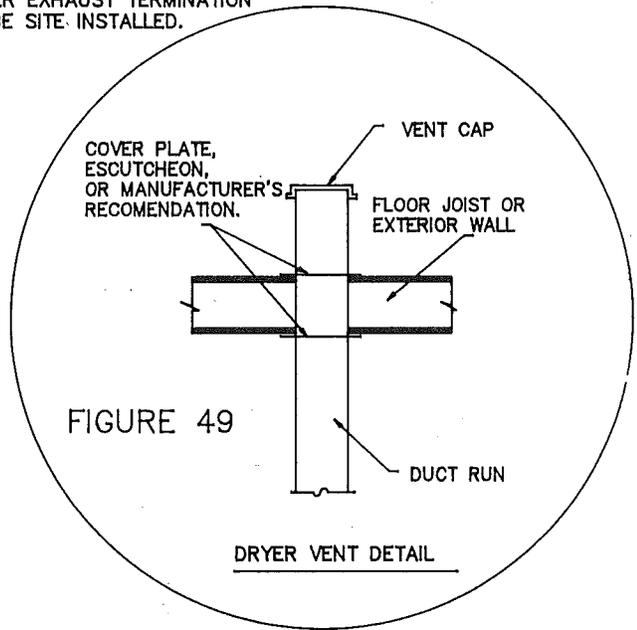

FIGURE 49
1. An access panel is located in the dryer area to provide access to the dryer end of the duct system. See Figure 49.
2. Access to rough in from outside may be located on the bottom side of the floor or on an exterior wall. See Figure 49.